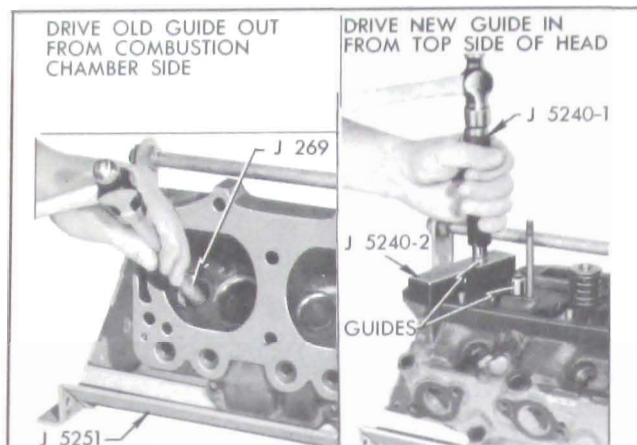

Figure 2-16—Removing and Installing Valve Guide
1. Place cylinder head on Holding Fixture J 5251 with valve springs straight up. Compress valve springs with fixture lever and remove the spring cap keys, then remove the springs and caps. See Figure 2-16.
(a) Remove center cross bar from Holding Fixture J-5251, place cylinder head in fixture so that inlet port side rests against the fixture lower bar, then drive guides out from combustion chamber side using Driver J-269. See Figure 2-16.
(c) Place Valve Guide Aligner J-5240-2 over guide hole in head, insert the valve guide either end down, and use Installer J-5240-1 and hammer to drive guide down into head until the shoulder on the installer contacts top of the aligner. See Figure 2-16. Repeat for each guide.